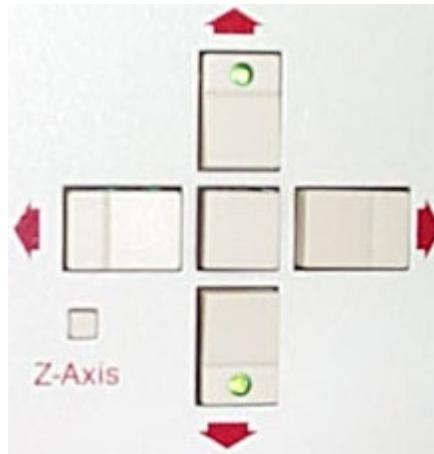
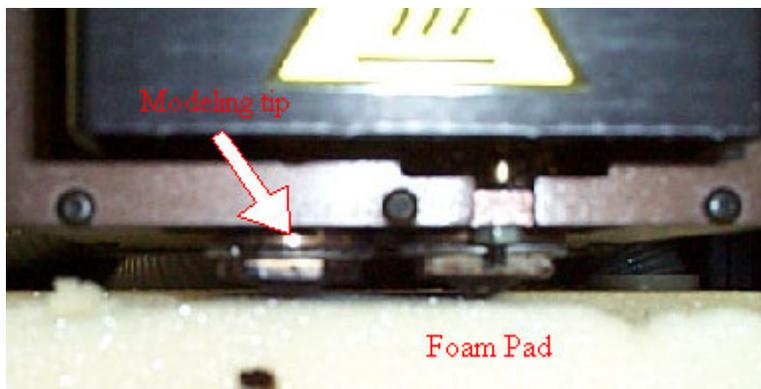

Figure 10: Arrow Keys for moving building dispenser
Figure 11: Placement of dispensing tip for part building.
- 4 When machine stops, move dispensing tip around using arrow keys on machine, see figure 10, we want to begin building on a non-used area of foam layer.
- 19.5 Press Z key to move foam pad up and down once desired location is found, arrow keys on up and down arrows will light up as shown in figure 10. The lower modeling tip must just barely be touching foam base to begin building, see figure 11.